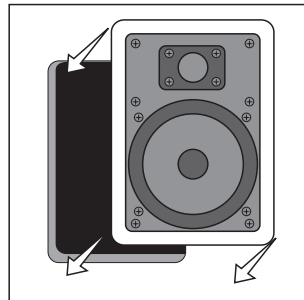
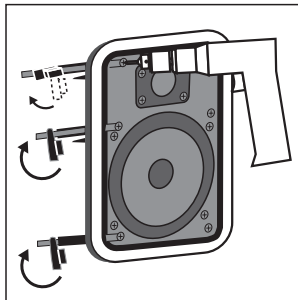

FIGURE 13
FIGURE 14
- Loosen the rotating wall clamps by unscrewing them. Make sure that the rotating wall clamps are flipped inwards so that your speaker fits into your cutout without nicking your wall. Then place the speaker carefully into the cutout [figure 13]. If you have a level, use it to help you correctly align the speaker. Tighten the wall clamp screws with a screwdriver. This will rotate the wall clamps and secure the speaker to the wall. **Hint**—on the RC55*i*, RC65*i* and RC85*i* models, tighten the center screws before tightening the corners for the most flush fit to your wall. *Do not over-tighten the wall clamp screws* [figure 14].